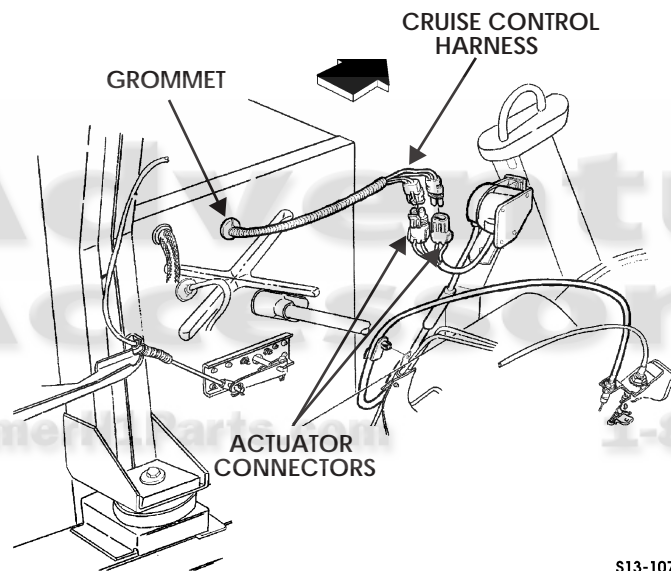

Figure 13-76: Actuator Connectors
1. Disconnect two harness connectors from actuator connectors (Figure 13-76).
1. Install grommet and harness on body (Figure 13-76).